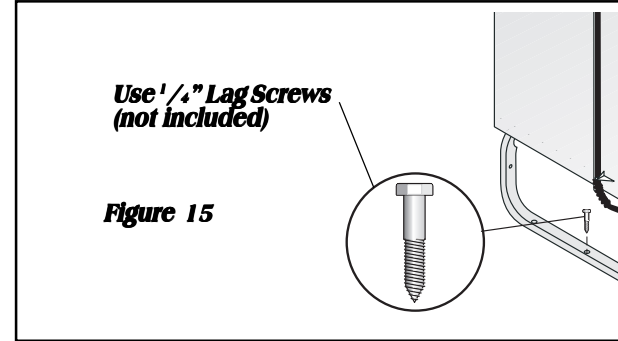

Figure 15
1. Screw 1/4" lag screws, (not included), through hole in frame rail. See Figure 15.